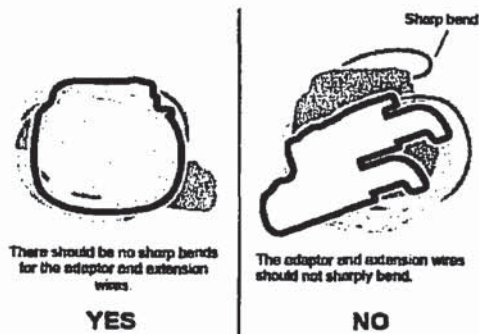

Figure 10. Ensure there are no sharp bends in any of the wires.
- Place the pocket adaptor behind the neurostimulator. Coil the adaptor wire and the excess extension wire behind the adaptor, ensuring there are no sharp bends in any of the wires (Figure 10).